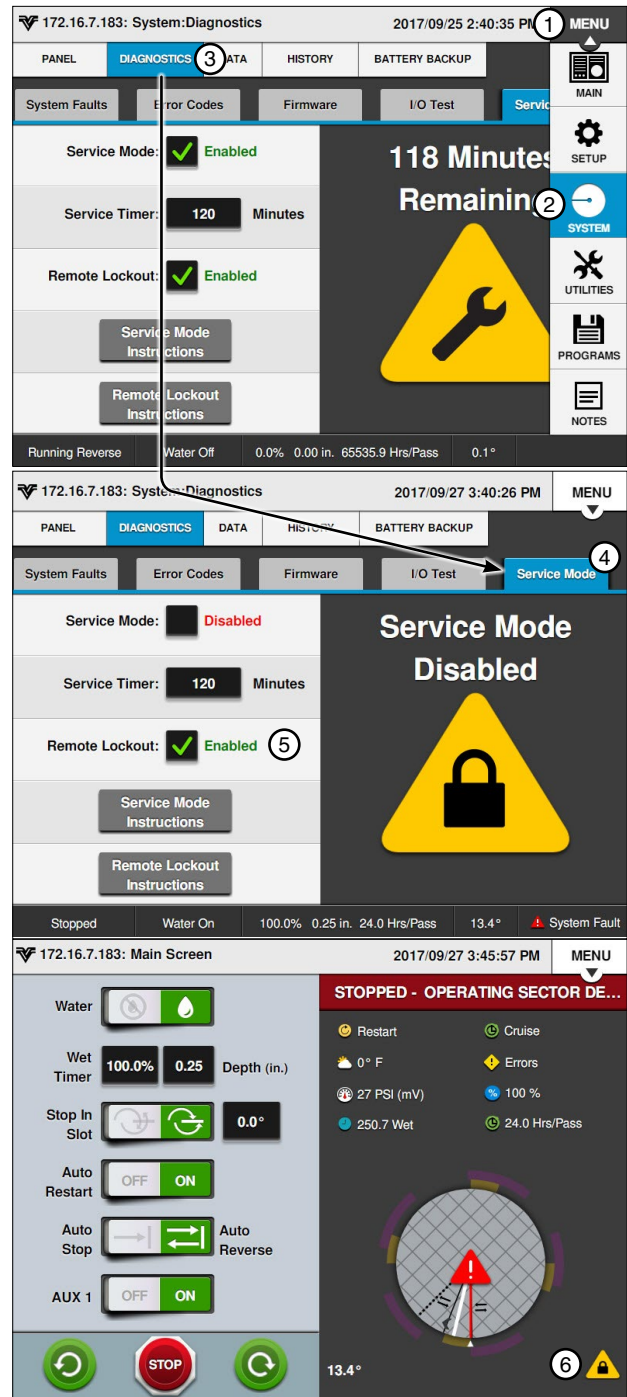

Figure 56-1 1. Menu 2. System 3. Diagnostics 4. Service Mode 5. Remote Lockout Checkbox 6. Remote Lockout Icon
1. Push **Menu**, **System**, **Diagnostics**, **Service**, and **Service Mode** to display the Service Mode screen. Refer to Figure 56-1.